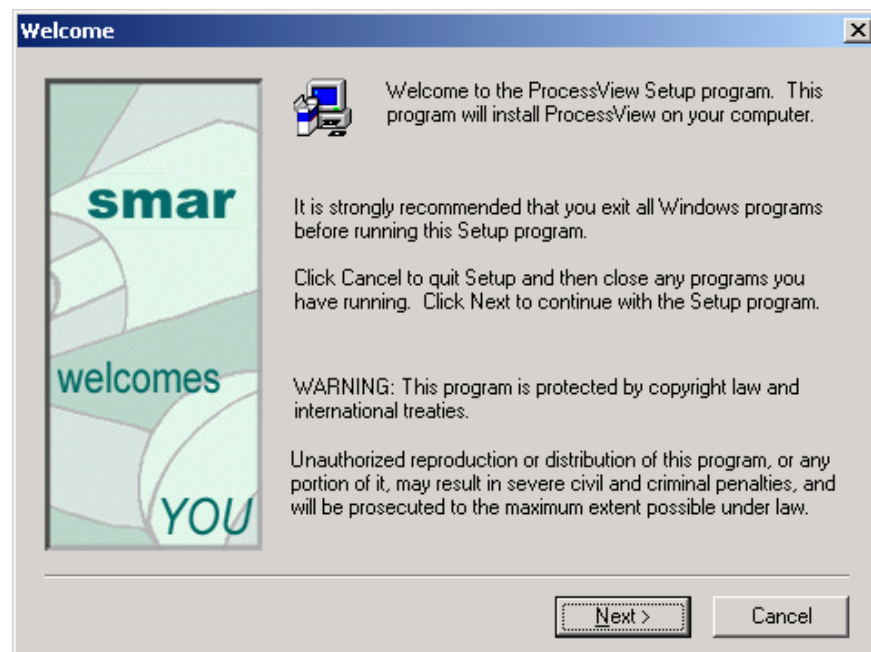

Figure 2.1. Welcome Screen
5. Click on the **ProcessView** button. The **Setup** screen briefly appears, followed by the **Welcome Message** screen, as shown in **Figure 2.1**. Click the **Next** button to continue.